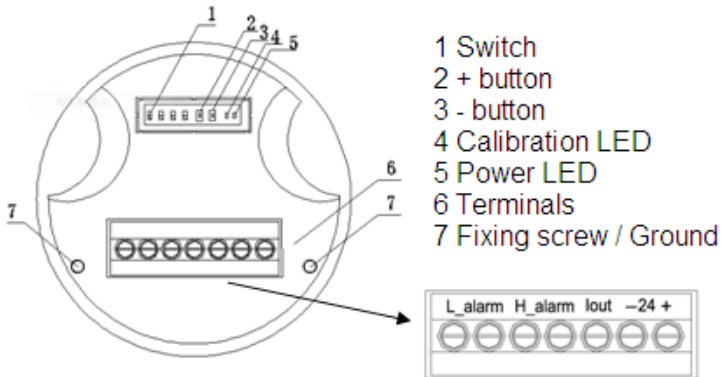
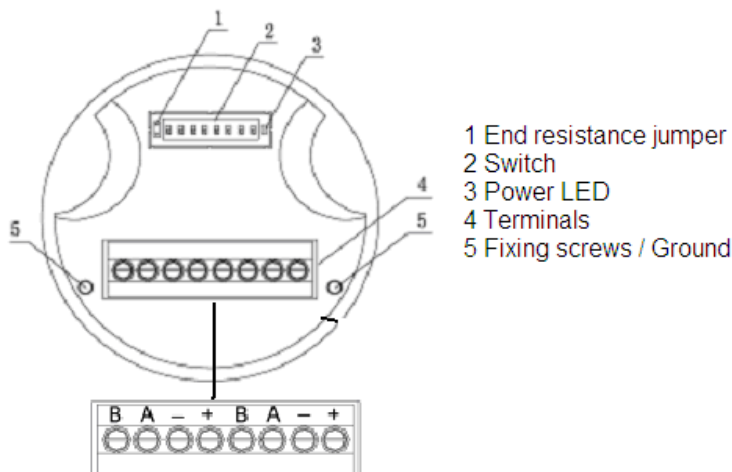

Fig. 4 Wire connection of 4-20mA output
Fig. 5 Wire connection of RS485 output
- The connection is as shown in the following sketch map. Fig. 4 is the wire connection of 4-20mA gas detectors and Fig. 5 is of RS485 detectors.